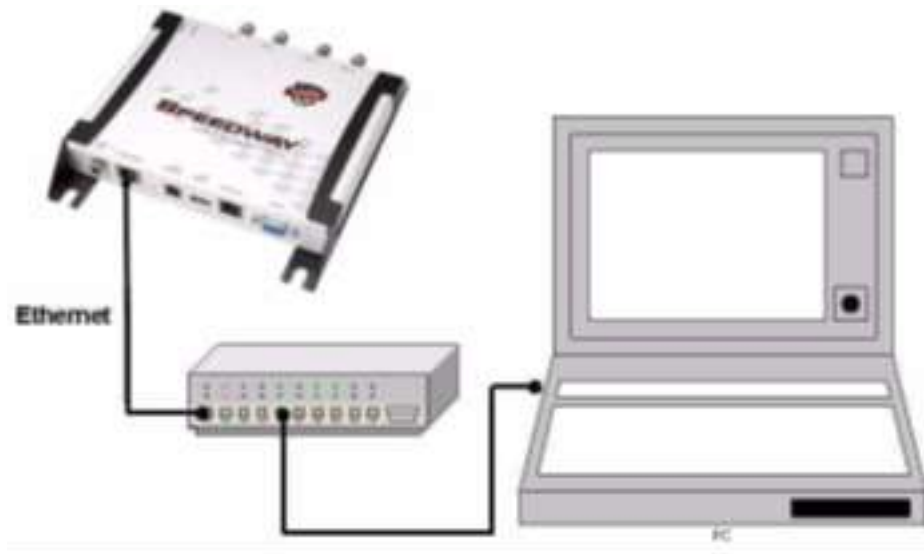

Figure 5.4 Connecting the Speedway Revolution Reader to the Ethernet Network
- Using a standard Ethernet cable, connect the RJ-45 connector on the Reader to a LAN drop or network switch. A typical network configuration is shown in Figure 5.4.